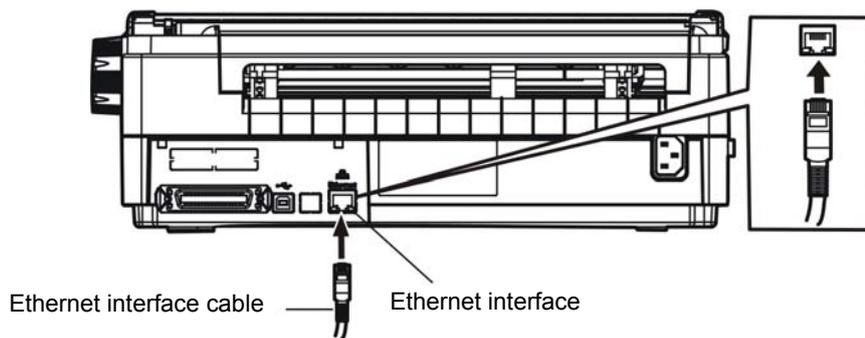

Figure 1-16 Connect to the Ethernet interface
1. Plug the RJ-45 crystal end of the Ethernet interface cable into the printer Ethernet interface, and plug the other end into the LAN. (Shown as figure 1-16)